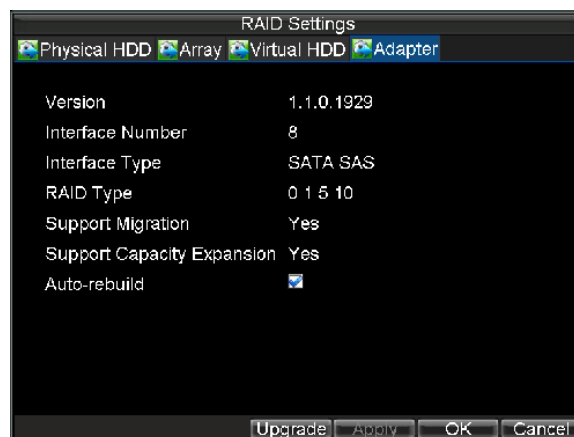

Figure 12. Adapter
2. Select the **Adapter** tab to enter the Adapter interface, as shown in Figure 12.